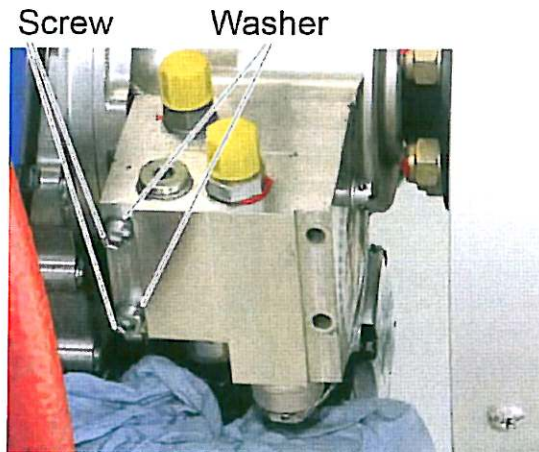

Figure 8
9. *Detach the two screws and two washers at the left side of the Constant Speed Unit (CSU). Discard the screws and washers. See Figure 8.*